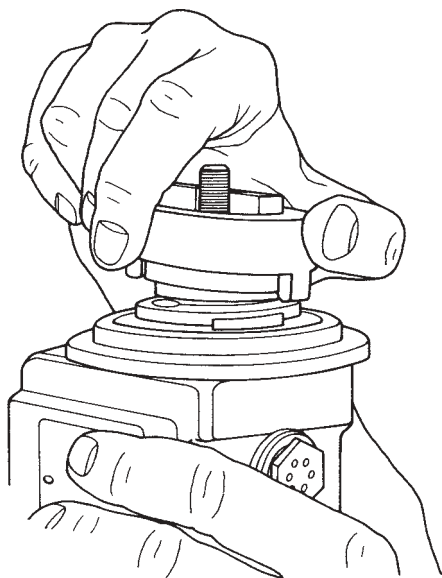

Figure 6.1
- B. Grasp shell of impulse coupling assembly and gently pull the assembly outward to clear the latching ears of the impulse hub assembly. (See Figure 6.1.)